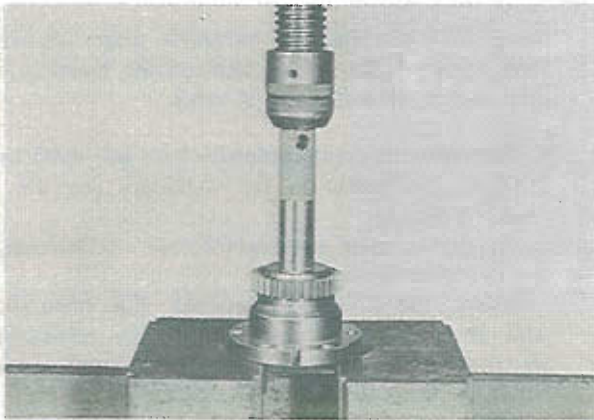

Fig. 1-43 Removing of main bearing
2) Remove the adaptor on the main bearing remover and press the main bearing out of the stationary gear by using the main bearing remover (Part No. 49 0813 235), as shown in Fig. 1-43.